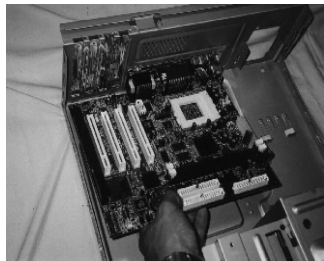

Fig:9
- D. Install at an angle, first by lining up the I/O Ports on the M/B with I/O plate (Fig 9).